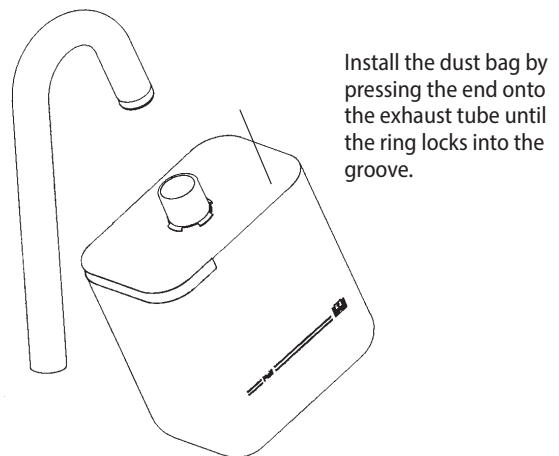

Figure 10
1. Install the dust bag by pressing the end onto the exhaust tube until the ring locks into the groove (Figure 10). This is best done by pressing on the back of the bag opening with the palm of your hand.